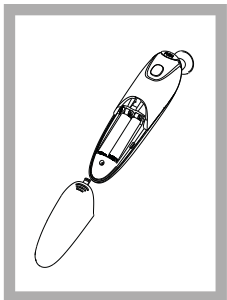

Figure 11
3. Remove battery and install 2 new AAA alkaline batteries as shown in Figure 11.